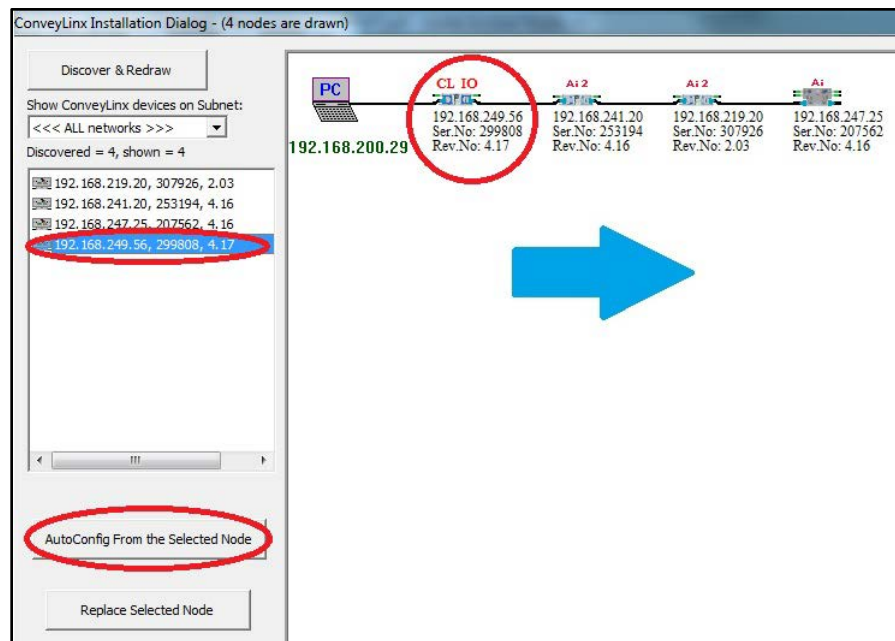

FIGURE 20 – TOPOLOGY VIEW AND INITIATING AUTO-CONFIGURE FROM THE SELECTED NODE
3. When the topology is drawn, select the *ConveyLinX* module from which you want to configure the line and click "Auto-Configure from selected node" as shown in Figure 20.